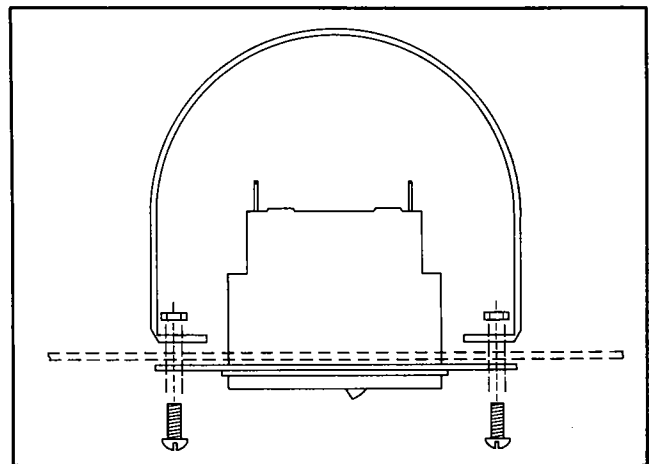

Figure 22. Tester Mounting
8. Bolt tester and fuse cover to the wall (figure 22) with four #10 screws and locknuts.